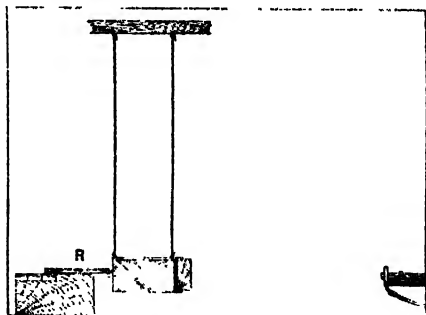

FIG. 64.—Measuring a bullet's speed by a ballistic pendulum.
All the methods we have described measure the average speed of something over a distance: there are one or two ways of measuring the speed of a thing at a particular moment. The first is simple. Let it collide with something and see how hard it hits! This would not be of much use for a racing car, but it does very well for a bullet! If the bullet is fired so that it beds itself in the wooden face of a heavy pendulum slung in the particular way shown in Fig. 64, the faster the bullet is travelling, the further the pendulum will be swung backward. The distance it swings can be measured by letting it push a brass rod (R) back over a scale. Suppose the pendulum weighs 120 lbs., and the bullet $\frac{1}{16}$ lb., and the pendulum took $\frac{3}{4}$ second to swing from right to left and it was pushed back three inches by the blow of the bullet then not very difficult mathematics show the speed of the bullet to be